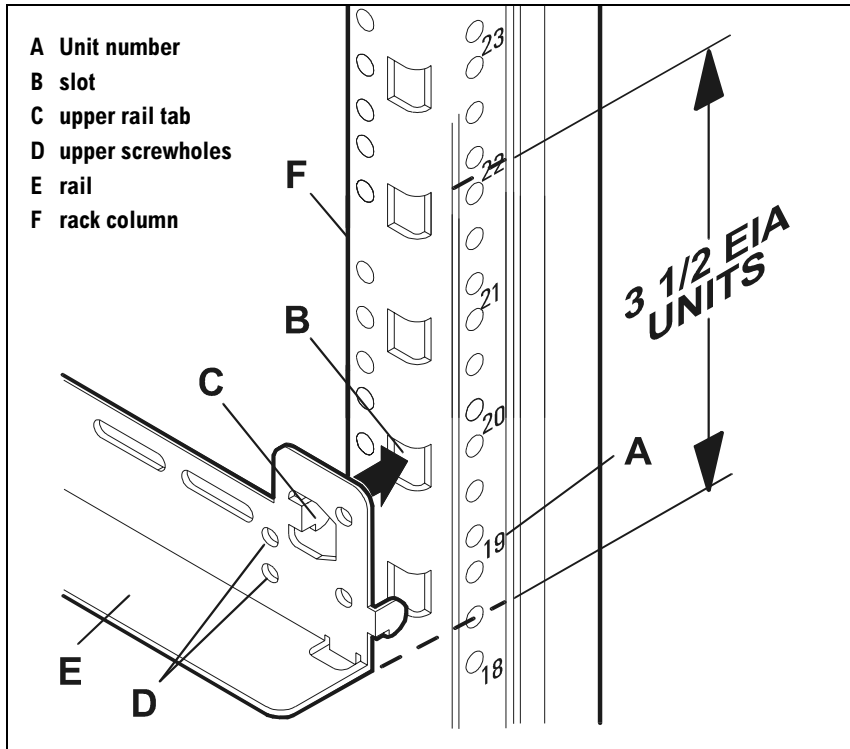

Figure 23 Mid-Unit Rail Position
- To use a half EIA at the bottom, insert the *upper* rail tab (C in Figure 23) in the bottom slot (B). This is the mid-Unit position.